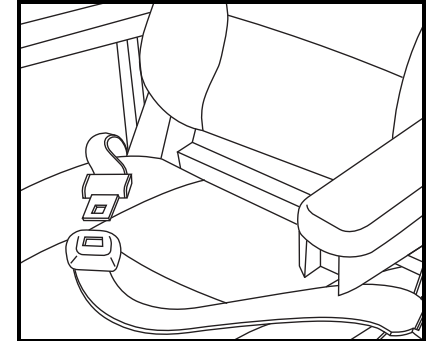

Figure 23. Positioning Belt Adjustment
Your power chair may be equipped with a positioning belt that can be adjusted for operator comfort. **See figure 23.** The positioning belt is designed to support the operator so that he/she does not slide down or forward in the seat. The positioning belt is not designed for use as a restraining device.
1. Once seated, insert the metal tab on one side of the belt into the plastic housing on the opposite side until you hear a click. **See figure 23.**